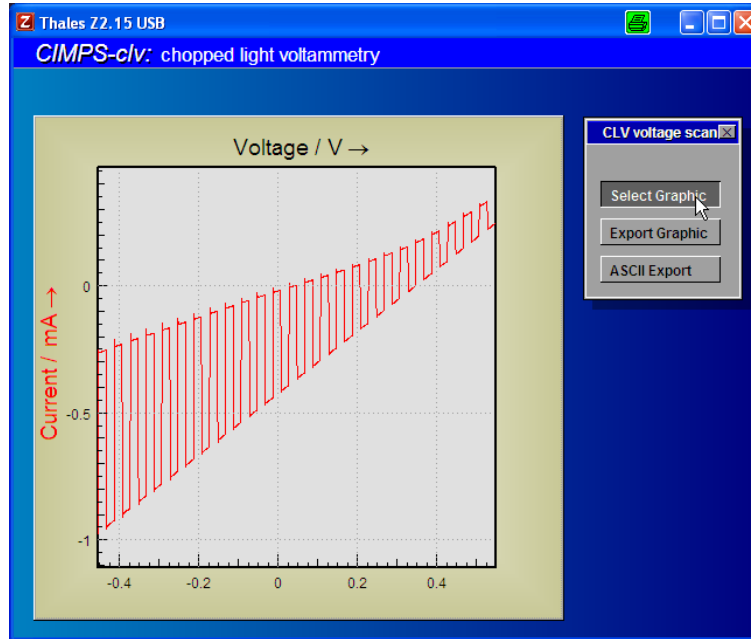
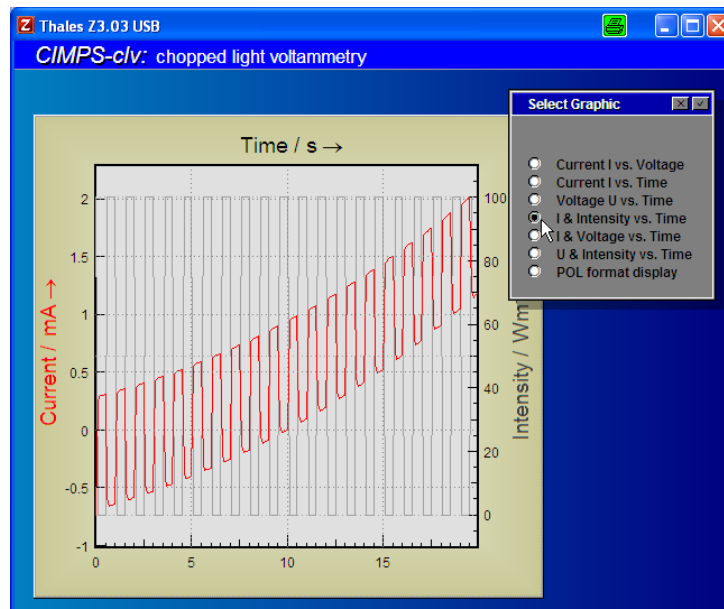
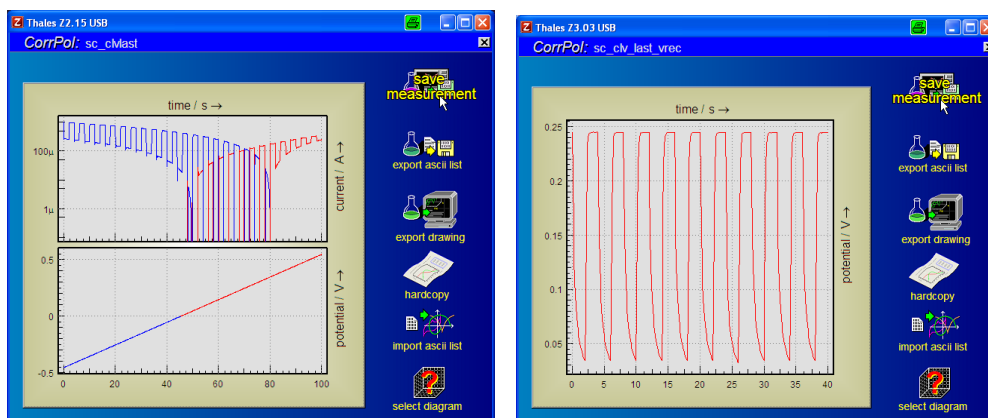

Fig. 20 Last scan menu
Fig. 21 Graphic selection panel
Fig. 23 POL display format displays and data save option
When entering the *Last scan/record* function, this data file is re-opened for display (Fig. 20). This will automatically reconfigure the parameter set to the last completed measurement. Intermediate changes of the *Scan Control Parameters* are overwritten.
The user has the choice between different graphic representations (Fig. 21):
- POL format: Current in logarithmic scale and voltage vs. time (two separate plots, except after OCP recording Fig. 23)
The currently displayed plot can be exported in the usual way of Thales to the Windows® clipboard, Thales CAD or saved as an enhanced metafile (emf) by means of the *Export Graphic* button (Fig. 20). The *ASCII Export* button (Fig. 20) creates a file with the columns voltage, current, time and intensity for use in third party software.
Alternatively, after selection of *POL format display* in the *Select Graphic* panel (Fig. 20 & Fig. 21), the data can be saved also in the *CorrPol* function environment (Fig. 23). Here the editing of CLV configuration parameters is not protected – do not alter the corresponding comment lines!